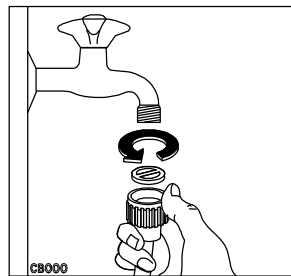
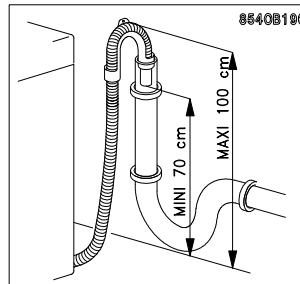
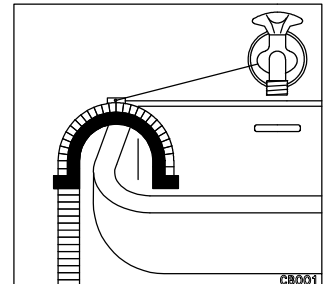

Fig.1
Fig.2
Fig.3
Open the flap door pressing on its extreme left (fig.1).
To take out the filter turn it handle anticlockwise and then pull towards yourself (fig.3).
Note : Under the filter there is a retractable gutter which makes it easier to collect any residual water. Pull it out before remove the filter (fig.2).
- Unpack the appliance. Tilt the appliance backwards. Give to one of the back corners a quarter turn. The appliance comes free naturally out the polystyrene basis. Take away this basis (fig. 1).
- Open the lid of the appliance and remove the polystyrene wedge which blocks the drum. Close the lid (fig. 2).
- On the back part and with a spanner, remove the two red loosened spacers (A) (fig. 3).
Connect the water inlet hose to a cold water tap with a 3/4" gas threaded orifice, after having inserted the rubber sealing washer into the hose collar (fig.1). If the water connection is made onto new pipes or onto pipes which have not been used for a long time, it is advisable to run off a certain amount of water before connecting the machine. Place the curved end of the outled hose into a drain pipe having a height between 70 and 100 cm from floor level (fig.2) or secure it to a sink (fig.3). Make sure that the drain hose is firmly secured so that it will not slip out or fall down from its position.